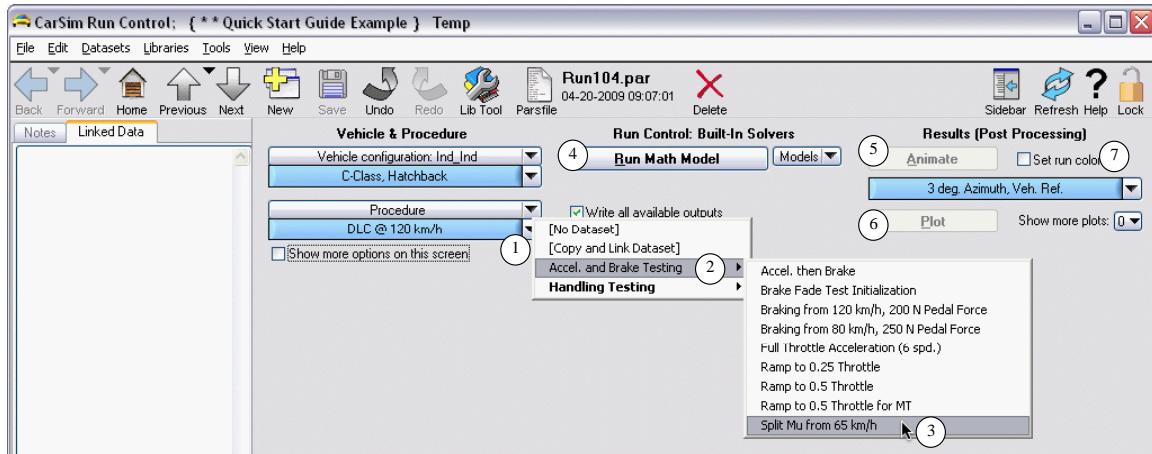
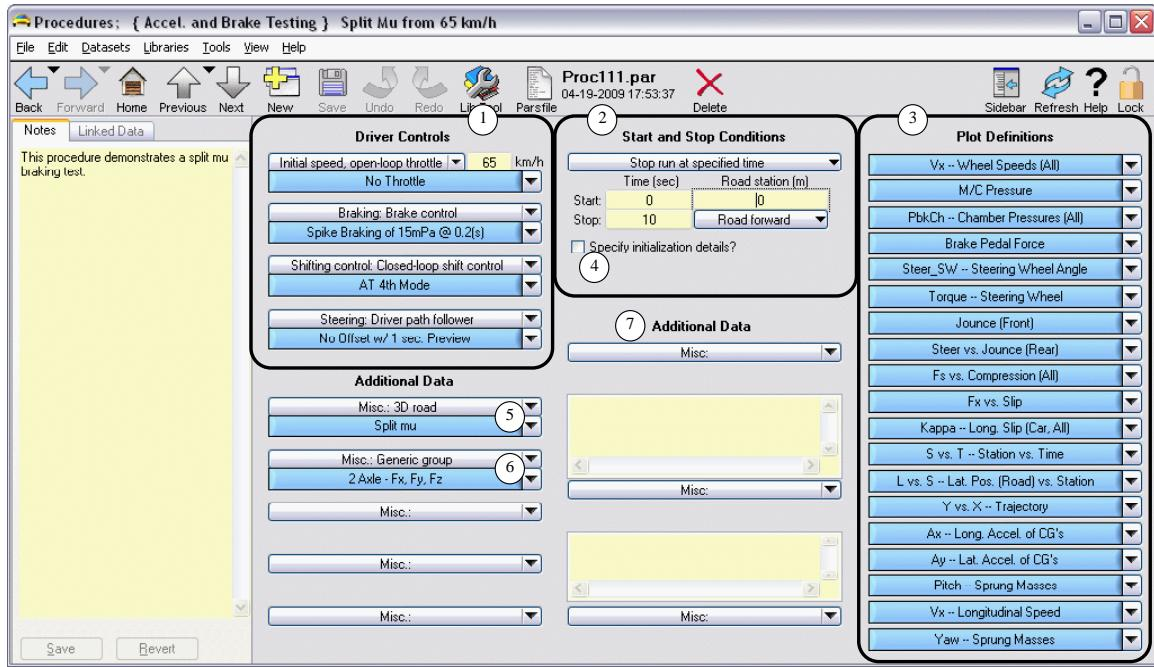

Figure 82. Choose a procedure for braking on a splu-mu surface.
Figure 84. The dataset for the split-mu braking procedure.
8. Click the **New** button to create another new dataset, and give it the name Temp (Figure 82).
14. Click the blue link button ① (Figure 82) to view the **Procedure** dataset (Figure 84). In this figure, three regions of the screen have been marked with black rectangles (①, ②, ③).